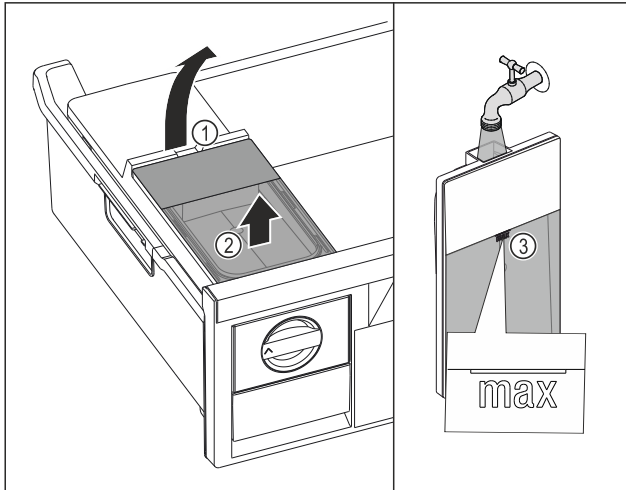

Fig. 72
- ▶ Lift the water tank at the recess Fig. 72 (1).
- ▶ Remove the water tank by lifting it upwards. Fig. 72 (2)
- ▶ Fill the water tank with drinking water up to the mark Fig. 72 (3).